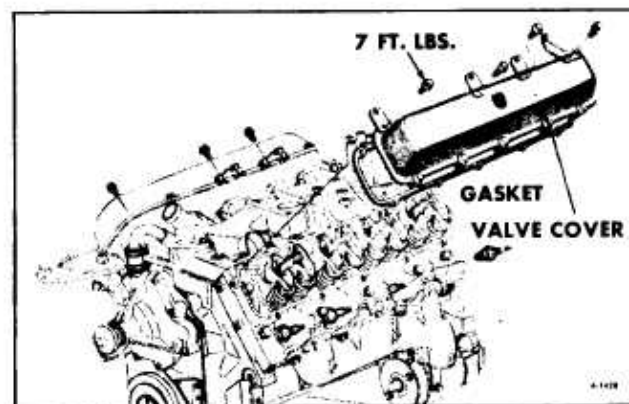

Figure 16-Valve Cover.
5. Remove valve cover to cylinder head attaching screws as shown in Figure 16.
2. Install valve cover and torque attaching screws as shown in Figure 16.